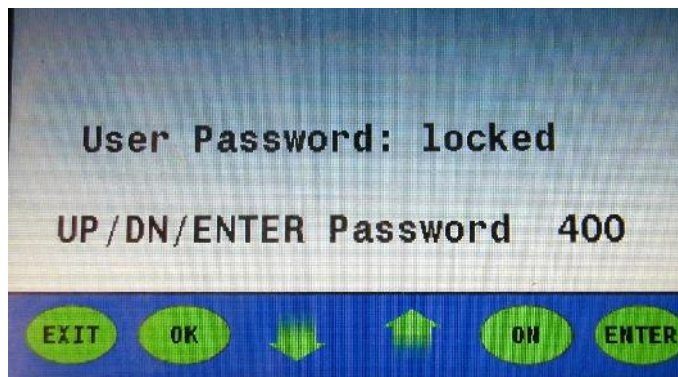

Figure 11
- Press the “UP” arrow to set the first number-“4” **(Figure 11)** (Note: DN can be used to decrease the number)